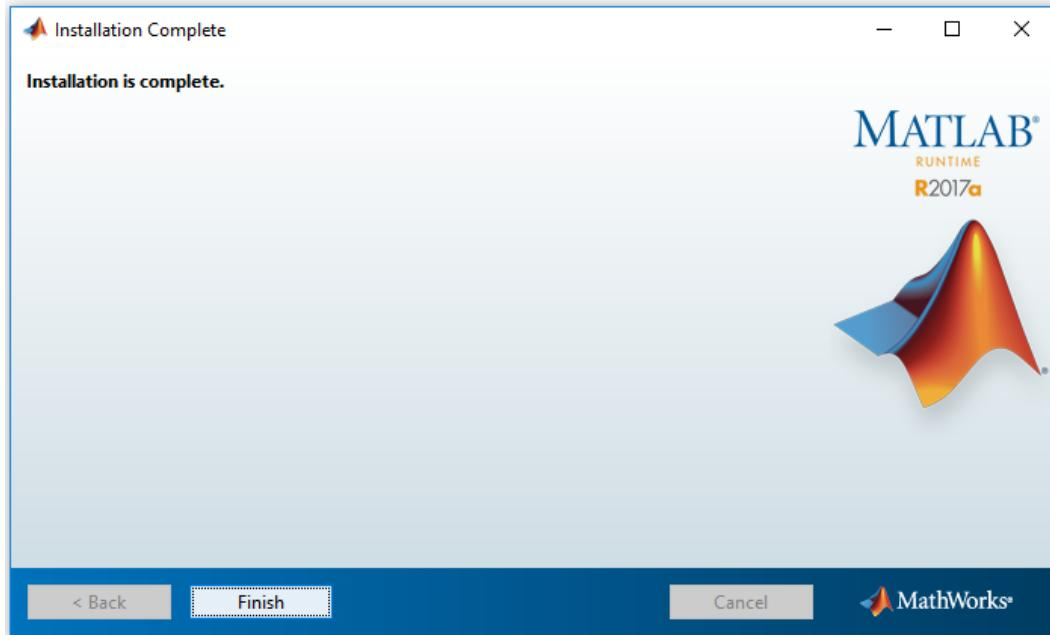

Figure 2.7
5. After the installation is successfully completed, click the Finish button to close the installation window (Figure 2.7).